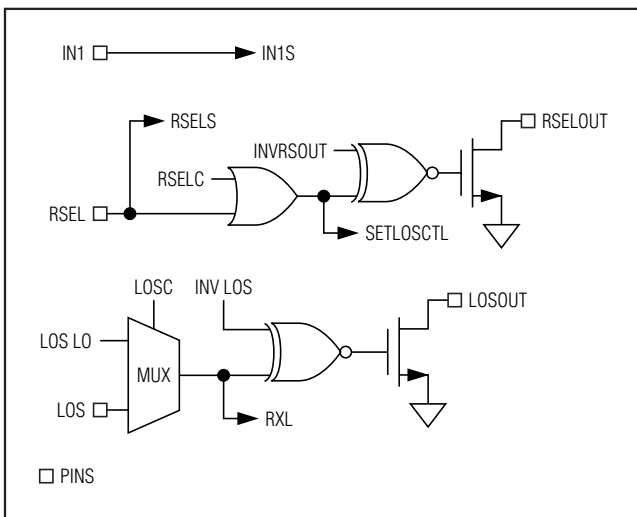
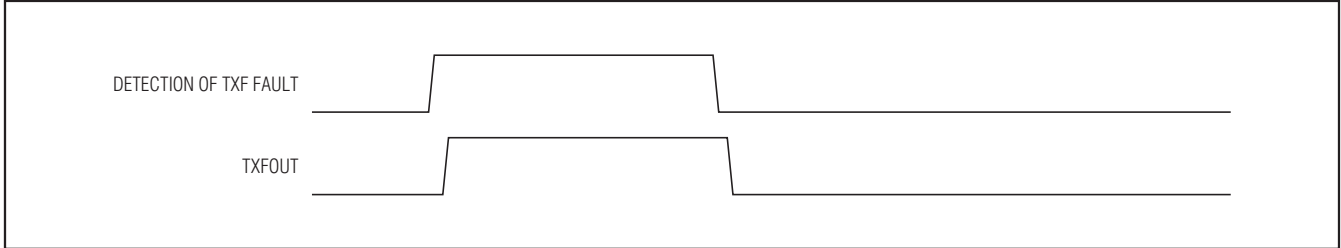
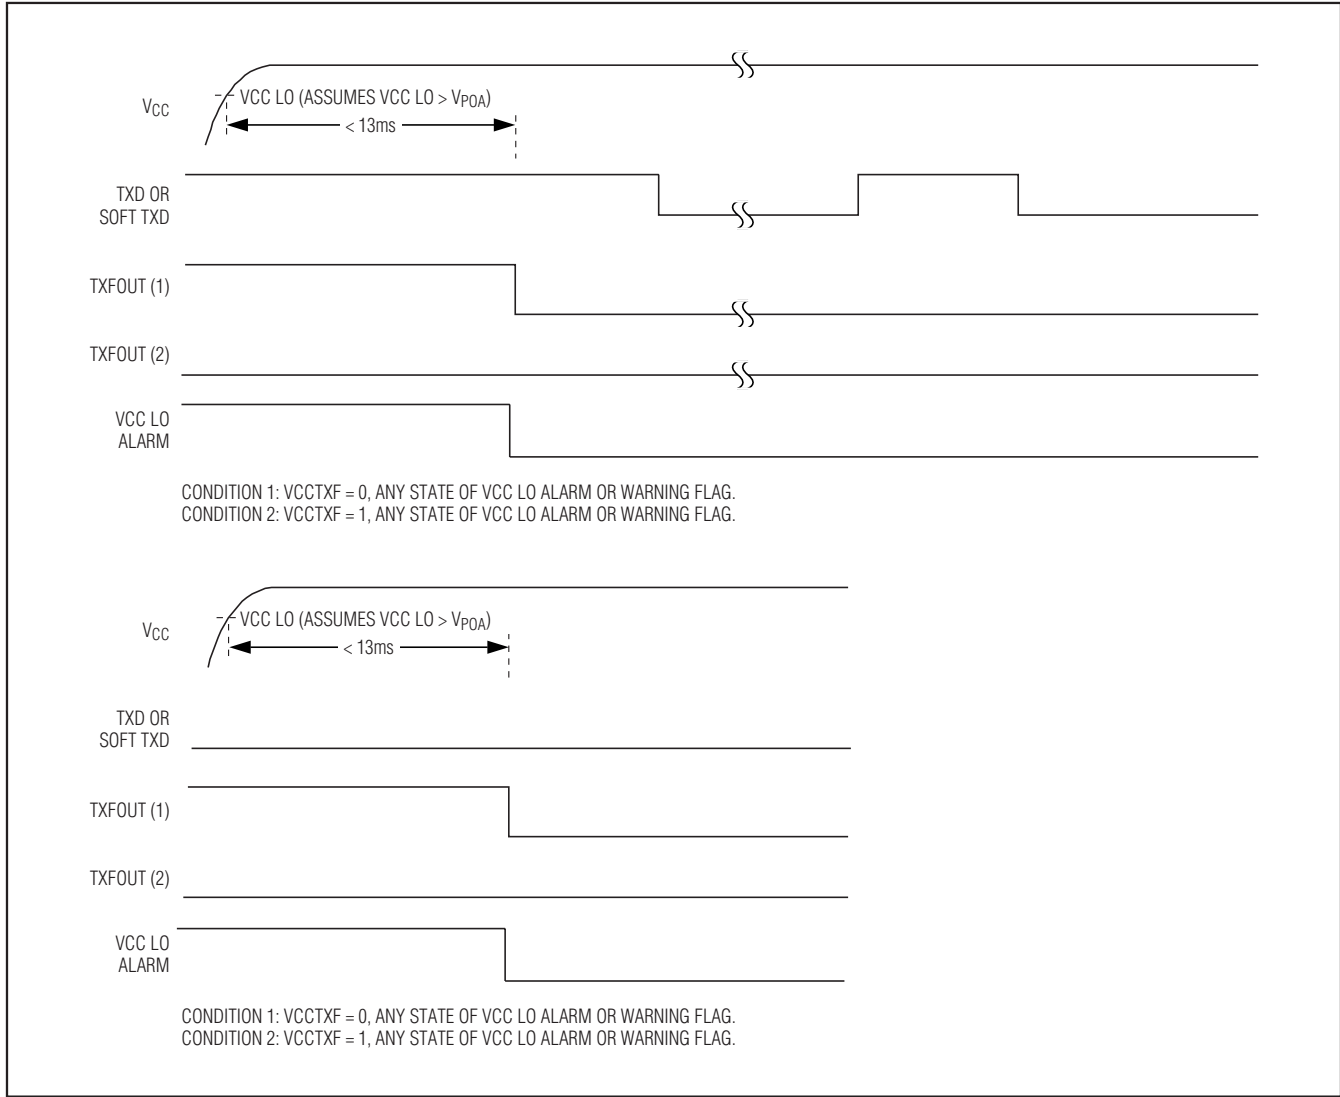
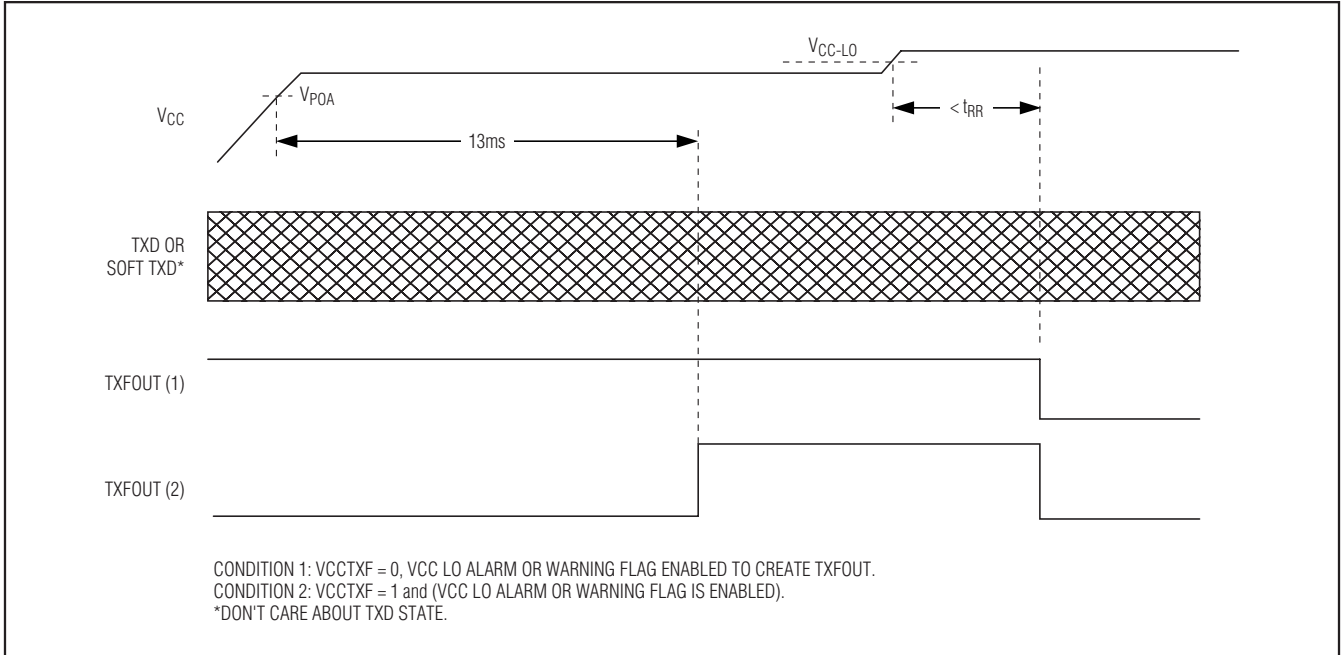

Figure 16. Logic Diagram 2
Figure 17a. TXFOUT Nonlatched Operation
Figure 17c. TXFOUT When TXD\_TXFEN = 0 on Fast Power-On
Figure 17d. TXFOUT When TXD\_TXFEN = 0 on Slow Power-On
The digital input IN1 and RSEL pins primarily serve to meet the rate-select requirements of SFP and SFP+. They also serve as general-purpose inputs. RSELOUT is driven by a combination of the RSEL and logic dictated by control registers in the EEPROM (Figure 16). The levels of IN1 and RSEL can be read using the STATUS register (Lower Memory, Register 6Eh). The open-drain RSELOUT output is software-controlled and/or inverted through the STATUS register and CNFGA register (Table 02h, Register 89h). External pullup resistors must be provided on RSELOUT to realize a high logic level. The RSEL pin determines the value sent by the 3-wire master to the limiting amplifier's SETLOS register. When RSEL is high, SETLOSH is used. When RSEL is low, SETLOSL is used. The DS1878 can transmit a bit on the 3-wire bus to Register 0x00 (bit 1) of the MAX3945, MAX3798, MAX3799, or RXCTRL1 (Table 02h, Register E8h) within 80ms of a transition (rising or falling) on the RSELOUT. This bit indicates the status of RSELOUT.
TXFOUT can be triggered by TXF input and all alarms, warnings, and quick trips (Figure 16). The six ADC alarms, warnings, and the LOS quick trips require enabling (Table 01h/05h, Registers F8h, FCh–FDh). See Figures 17a and 17b for nonlatched and latched operation. Latching of the alarms is controlled by the CNFGB and CNFGC registers (Table 02h, Registers 8Ah–8Bh).
By default, TXD does not impact TXFOUT (TXD\_TXFEN = 0). This is shown in the Figure 17c. When TXD\_TXFEN = 1, TXD affects TXFOUT. The particular behavior is described in Figure 17a and 17b.
ing generates TXFOUT before the first VCC conversion, which is illustrated in Figure 17c and Figure 17d.
In the other instance, VCC would power up and go above the VCC LO threshold after the first conversion is complete. In this case TXFOUT behaves as in Figure 17d.
**Note 2:** Either SETLOSH or SETLOSL is written to the slave register SET\_LOS. This is determined by the signal RSEL (see Figure 16).